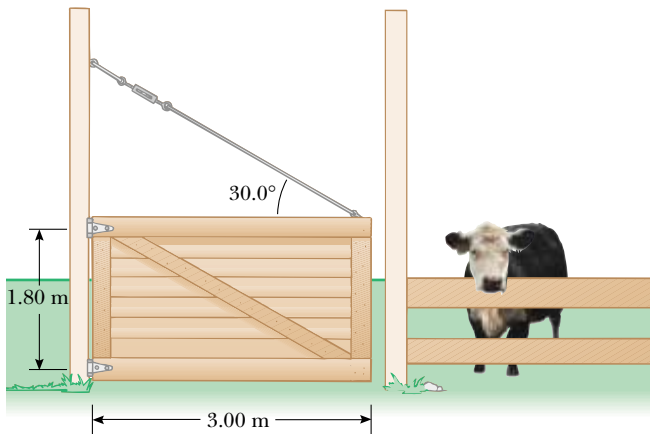

Figure P12.43
43. Old MacDonald had a farm, and on that farm he had a gate (Fig. P12.43). The gate is 3.00 m wide and 1.80 m